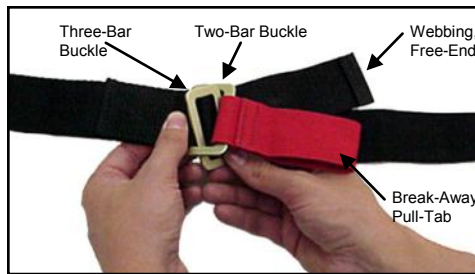

Figure 2, Fastening the Buckle
- 1 Pass the three-bar buckle and webbing upward through the opening in the two-bar buckle (fig. 2).